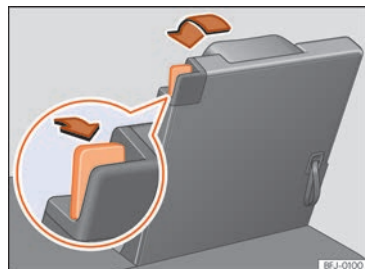

Fig. 196 Third row of seats: place the seat in loading floor position.
- Remove any objects located in the footwell in front of and behind the seat >>> ①.
- Pull the unlocking lever >>> Fig. 196 to its rear-most position to unlock the seat backrest.
- Pull the cord on the backrest of the seat >>> Fig. 196 to lift the backrest. **OR:** lift the backrest with your hand from the vehicle interior.
- The red mark on the unlock lever >>> Fig. 196 must disappear.
- A red mark on unlock lever >>> Fig. 196 indicates that backrest is not engaged. If the back rest is locked correctly, the mark is not visible.